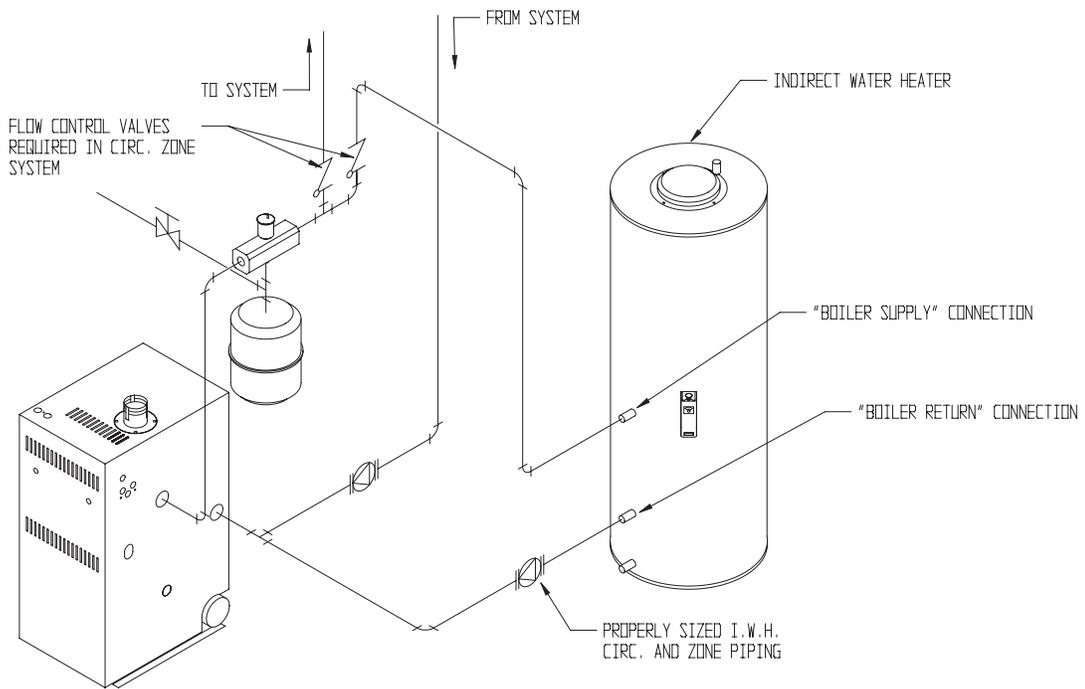

FIGURE 8.2: INDIRECT WATER HEATER BOILER-SIDE PIPING
- 1) Indirect Water Heaters – Figure 8.2 shows typical indirect water heater piping. Boiler piping is the same as for any two-zone system. Figure 8.2 shows circulator zoning, which is usually preferred for indirect water heaters. Size the circulator and indirect water heater piping to obtain the boiler water flow through the indirect water heater called for by the indirect water heater manufacturer. The standard CWD control system will operate two circulator zones. See the Wiring section of this manual.